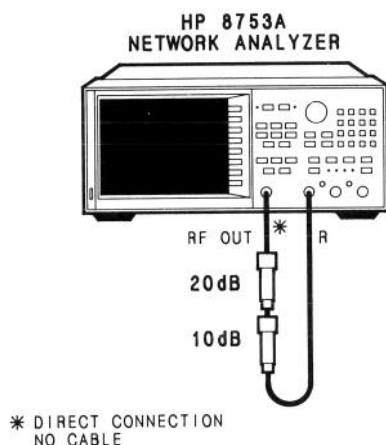

Figure 2. Phase Lock Sensitivity Test Setup
1. Connect the equipment as shown in Figure 2.